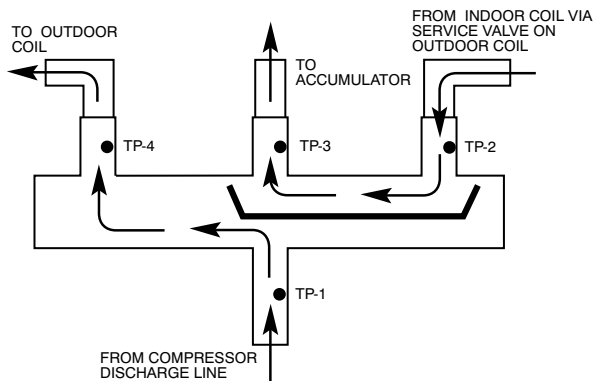
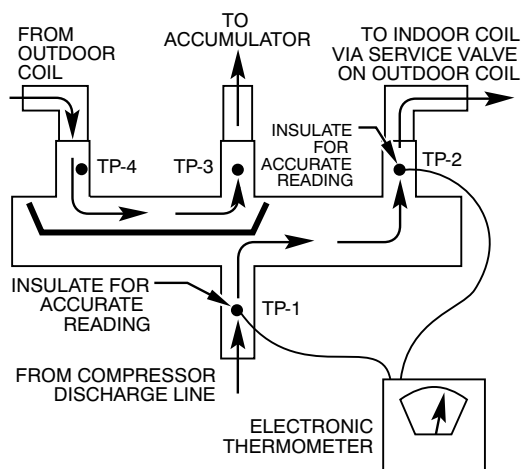

Fig. 33 – Reversing Valve
Fig. 34 – Reversing Valve
Using a remote measuring device, check inlet and outlet line temperatures. DO NOT touch lines. If reversing valve is operating normally, inlet and outlet temperatures on appropriate lines should be close to each other. Any difference would be due to heat loss or gain across valve body. Temperatures are best checked with a remote reading electronic-type thermometer with multiple probes. Route thermocouple leads to inside of coil area through service valve mounting plate area underneath coil. Fig. 33 and Fig. 34 show test points (TP) on reversing valve for recording temperatures. Insulate points for more accurate reading. If valve is defective: